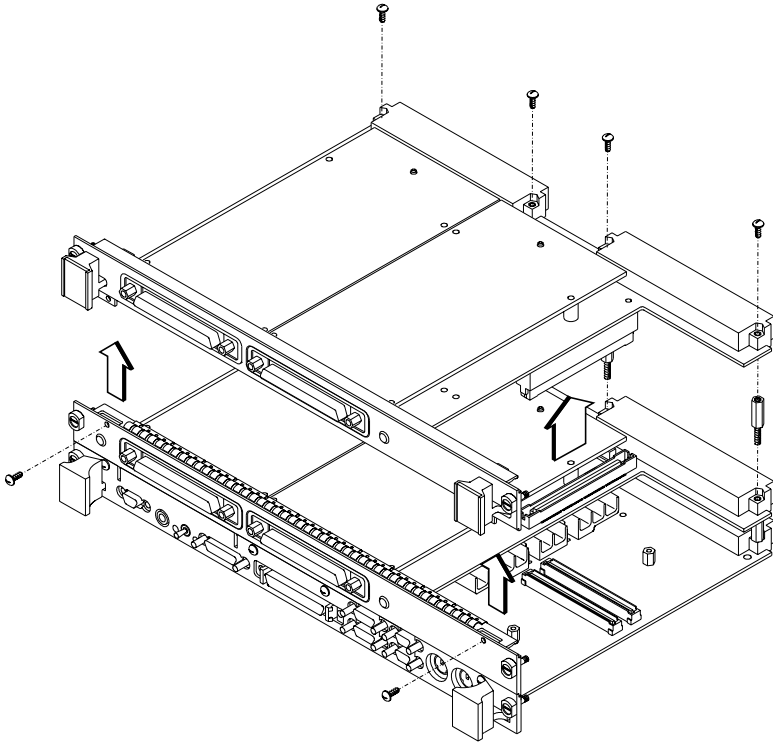

Figure 5-8 Removing the PMC Expansion Adapter
- 3 Remove the expansion adapter's two front panel screws, as shown in Figure 5-8.
- 4 Remove the expansion adapter's four VME connector screws, as shown in Figure 5-8.